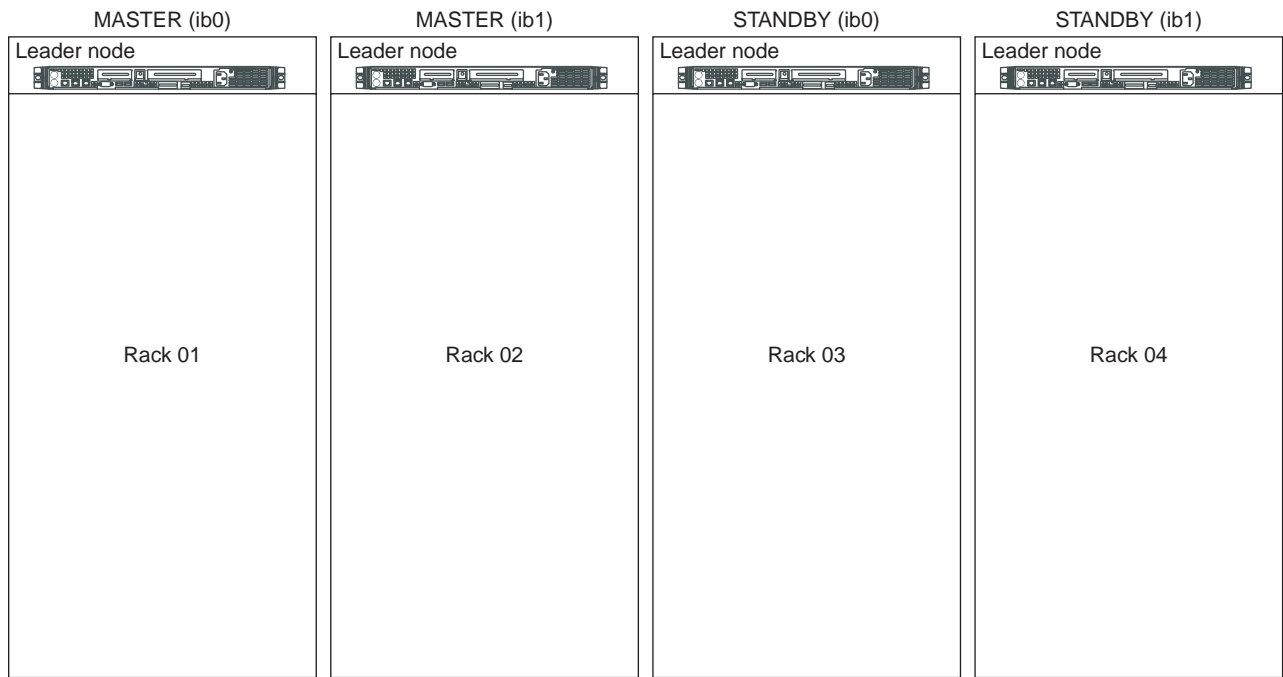

Figure 4-6 `opensm` Software Failover
Each subnet manager (SM) has a failover mechanism. If the master SM fails, the standby SM takes over operation of the fabric. This failover operation is performed automatically by the `opensm` software. Typically, `rack1` is the MASTER for the `ib0` fabric and `rack2` has the MASTER for the `ib1` fabric, as shown in Figure 4-6 on page 192.